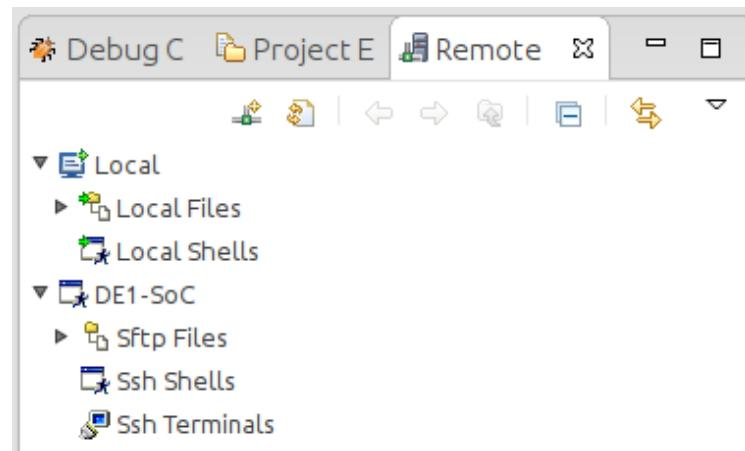

Figure 13-13. New SSH Connection In "Remote Systems" View
79. You should be able to see the remote system in ARM DS-5’s “Remote Systems” view, as shown in Figure 13-13.